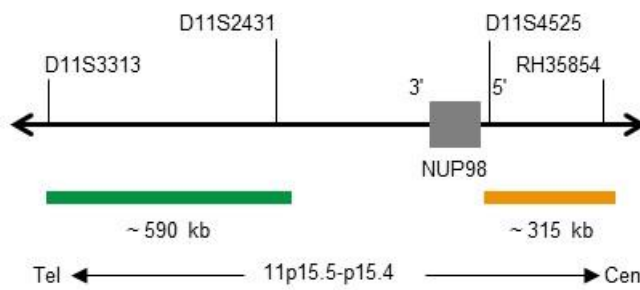

Fig. 1: SPEC NUP98 Probe map (not to scale)
- ZyGreen (excitation 503 nm/emission 528 nm) labeled polynucleotides (~10.0 ng/μl), which target sequences mapping in 11p15.4-p15.5* (chr11:2,773,748-3,363,120) distal to the NUP98 breakpoint region (see Fig. 1).
- ZyOrange (excitation 547 nm/emission 572 nm) labeled polynucleotides (~4.5 ng/μl), which target sequences mapping in 11p15.4* (chr11:3,829,054-4,142,792) proximal to the NUP98 breakpoint region (see Fig. 1).